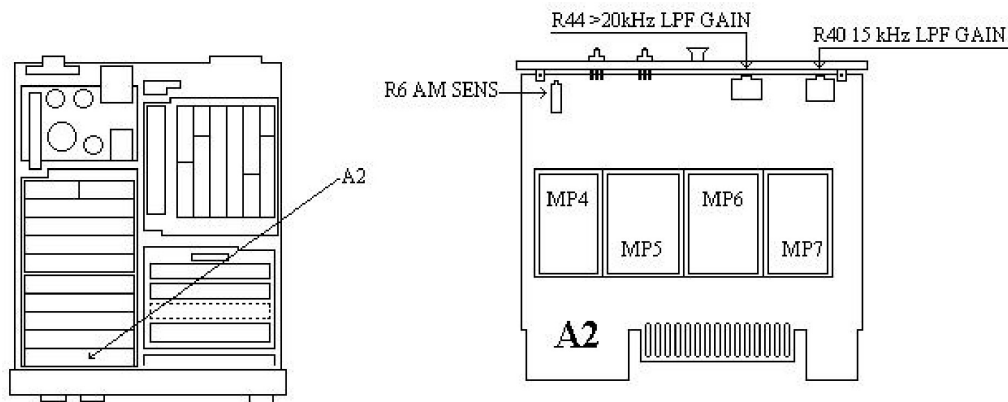
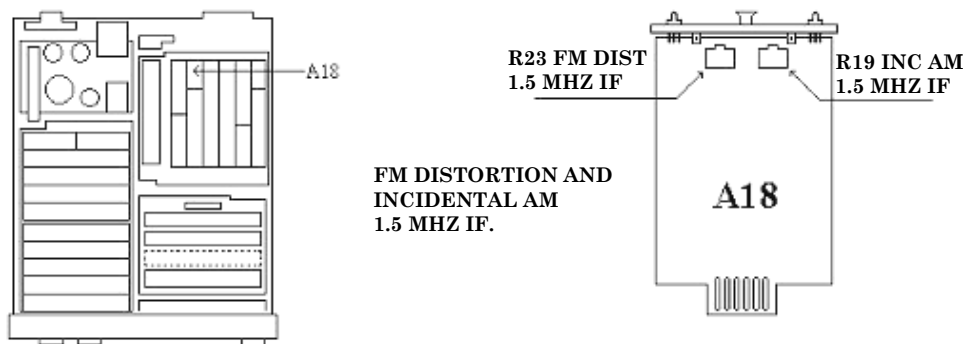
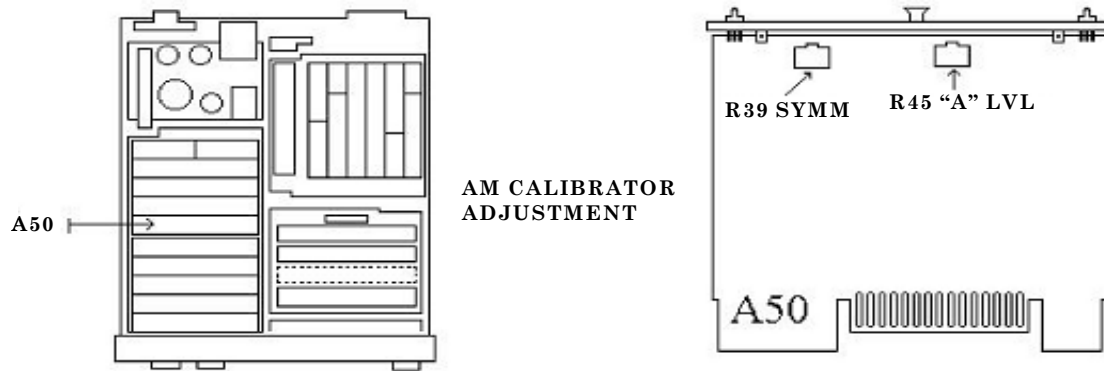

Figure 2. A2 board.
Figure 4. A18 board.
Figure 5. A50 board.
- (3) Connect TI sensor module to signal generator No. 1 **RF OUTPUT**.
- (4) Set signal generator No. 1 for an output frequency of 500 MHz at 3 dBm with 30 percent AM at a 1 kHz rate.
- (5) Adjust A2R44 >20kHz LPF GAIN (fig. 2) for a display of 99.95 to 100.05 percent (R).
- (6) Press TI **LP FILTER 15 kHz** key.
- (7) Adjust A2R40 15kHz LPF GAIN (fig. 2) for a display of 99.95 to 100.05 percent (R).
- (8) Disconnect TI sensor module from signal generator No. 1 **RF OUTPUT**.
- (9) Connect TI sensor module to TI **CALIBRATION RF POWER OUTPUT**.
- (10) Press TI keys as listed in (a) through (d) below:
(22) Adjust A18R23 FM DIST 1.5 MHz IF (fig. 4) for equal indications between TI **PEAK+** and **PEAK-(R)**.
(23) Press TI keys as listed in (a) and (b) below:
(24) Switch TI **DETECTOR** between **PEAK+** and **PEAK-**. The difference should be <1.6 kHz. If not, adjust A18R23 FM DIST 1.5 MHz IF (fig. 4) to reduce the difference by one-half. Note the indications as PK1+ and PK1-.
(25) Press TI **↑kHz** key.
(26) Switch TI **DETECTOR** between **PEAK+** and **PEAK-**. Note the indications as PK2+ and PK2-.
(27) TI is properly adjusted when $[(PK1+ - PK1-) + (PK2+ - PK2-)] < 1.6$ kHz.
(28) Move connection from AM/FM test source **FM OUTPUT** to AM/FM test source **FM/4 OUTPUT**.
(29) Press TI keys as listed in (a) and (b) below:
(30) Set calibrator for a wideband output of 1 kHz at an amplitude of 250 mV.
(31) Adjust calibrator output level for a TI indication of 50 kHz.
(32) Press TI **MEASUREMENT AM** key.
(33) Adjust A18R19 INC AM 1.5 MHz IF (fig. 4) for a minimum display <0.2 percent (R).
(34) Disconnect equipment setup.
(35) Connect TI sensor module to TI **CALIBRATION AM/FM OUTPUT**.
(36) Press TI keys as listed in (a) and (b) below:
(37) Adjust A50R45 "A" LVL (fig. 5) for a display of 33.330 to 33.336 percent (R).
- (38) Press TI keys as listed in (a) and (b) below:
- (39) TI display should indicate between 1.8 and 2.2.
- (40) Press TI keys as listed in (a) through (d) below:
- (41) Alternately switch TI **DETECTOR** between **PEAK+** and **PEAK-**. Note the indications for each setting.
- (42) Adjust A50R39 SYMM (fig. 5) until the indications are the same for both detectors within ± 0.015 percent (R).
- (43) Press TI keys as listed in (a) and (b) below: